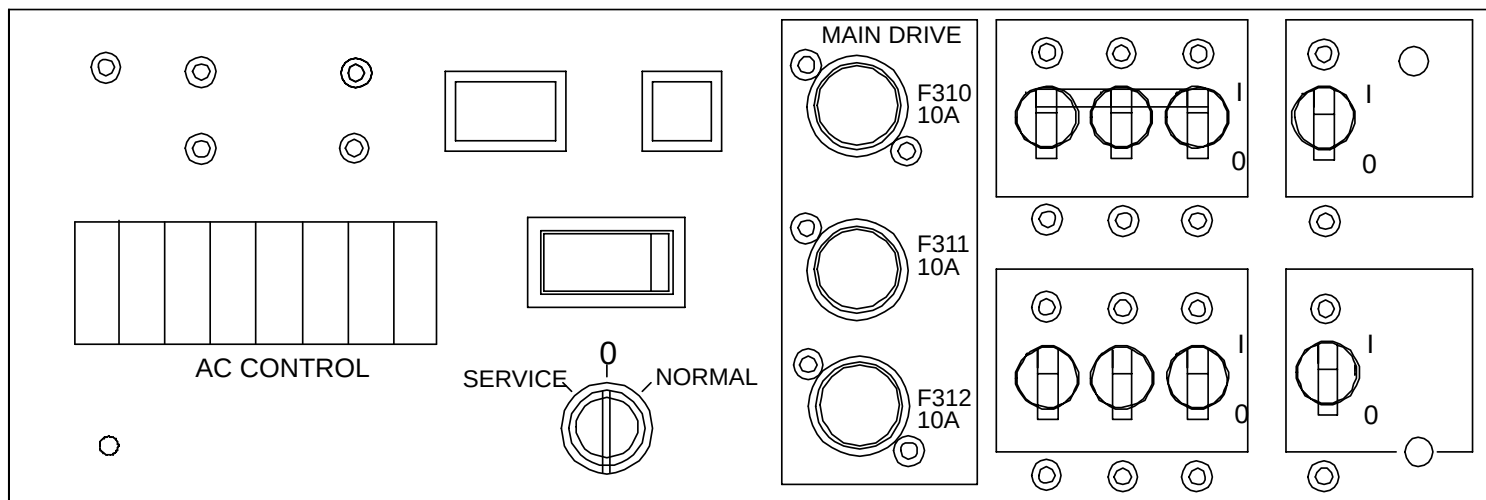

FIGURE 40 AC CONTROL PANEL
9. Perform **DC power check**. Refer to Figure 40.